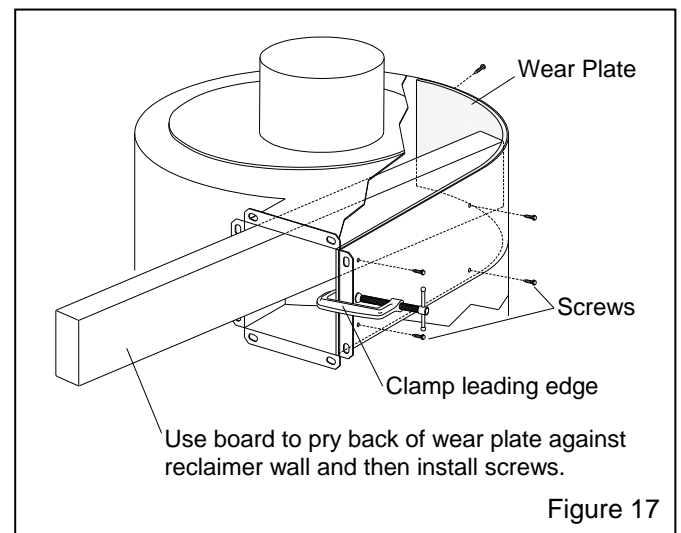

Figure 17
7.5.1 Reclaimer with welded-on, non-removable top, Figure 17